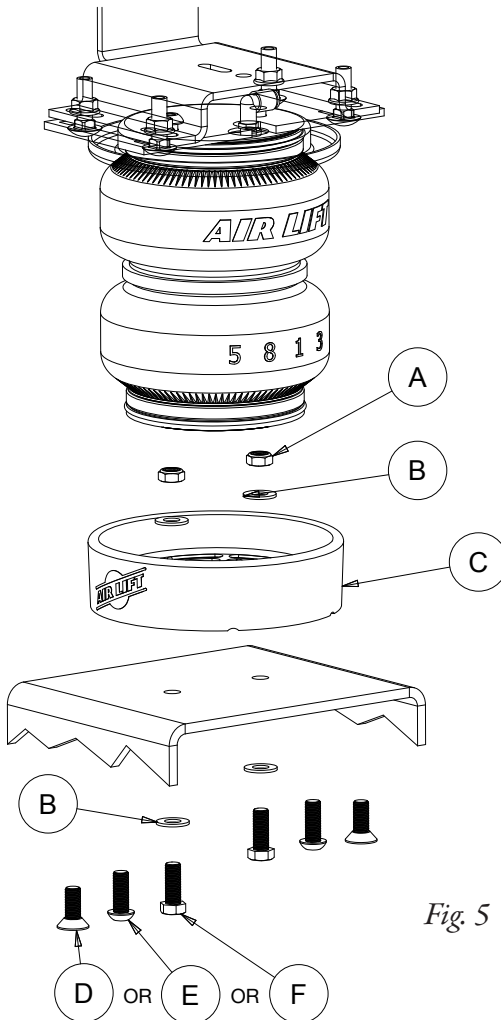

Fig. 5
- Use the supplied hardware that mimics the hardware used in your air spring kit for attaching the lower bracket to the air spring (Fig. 5). The air spring and universal air spring cradle should be aligned so that the air spring is contacting the universal air spring cradle in the center. Torque the air spring cradle hardware to 15 lb.-ft. (20Nm).